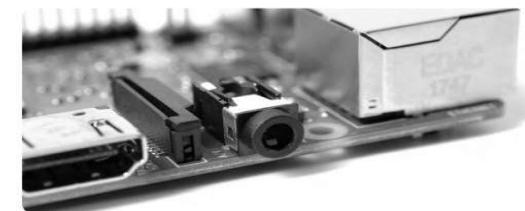

Figure 1.32 The Raspberry Pi's 3.5mm AV jack
A 3.5 mm audio-visual (AV) jack is located just above the Ethernet port on the Raspberry Pi's left-hand edge (Figure 1.32). This is also known as the headphone jack, and it can be used for that purpose — albeit connecting it to amplified speakers rather than headphones will provide superior sound. The 3.5 mm AV jack, however, has a secret feature: in addition to audio, it transmits a video signal that can be linked to TVs, projectors, and other displays that support a composite video signal with a special connection known as a tip-ring-ring-sleeve (TRRS) adapter.